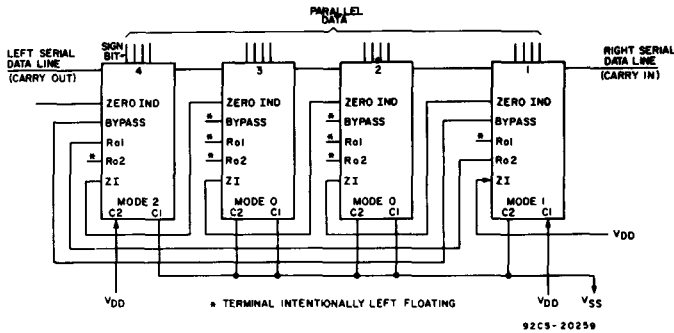

Fig. 11 — Connection for 16-bit arithmetic logic unit.
Data-flow interruptions are shown by shaded areas. With these three ALU's and the four available modes, 61 more system combinations can be formed. If 4 ALU's are used, 44 combinations (256) are possible. Fig. 11 shows a diagram of 4 CD4057A's interconnected to form a 16-bit parallel processor.
The condition of "all zeros" is indicated by a "1" on the Zero Indicator terminal of the "Most Significant" CD4057A. As shown in Fig. 11, terminal Z1 of the CD4057A containing the least significant set of bits is connected to V_{DD} . Zero indication is independent of modes.